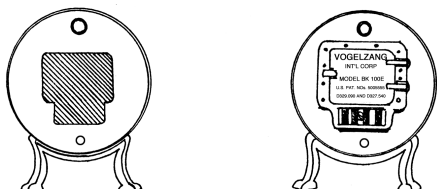

Fig. 1 – Cut opening in end of barrel, drill mounting holes and install door assembly.
6. Cut the opening for the door and draft using either a sabre saw or a reciprocating saw with a metal blade. De burr opening with metal file (fig. 1).